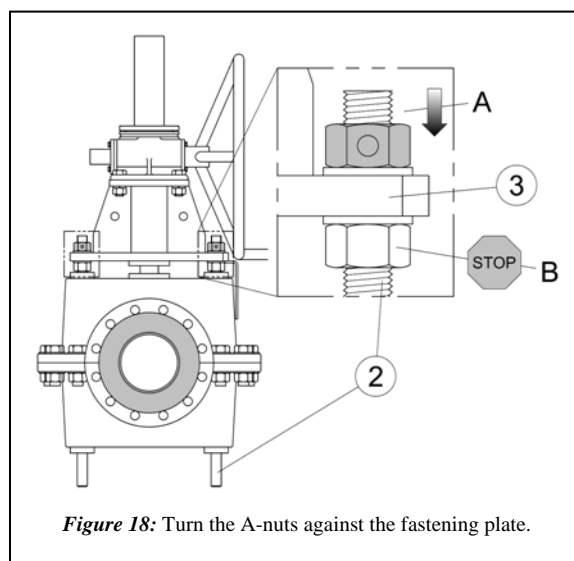

Figure 18: Turn the A-nuts against the fastening plate.
STEP 12: Actuate the RF Valve® open and tighten both A-nuts against the fastening plate ③ (Fig. 18). DO NOT allow the B-nut to turn along the pull bar ② during this step.